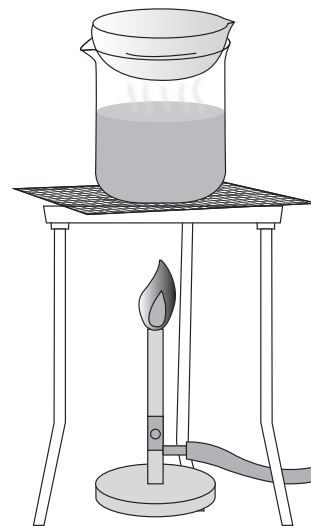

Figure 3 Crystallisation
- 8 Place the evaporating basin on top of this beaker as shown in Figure 3, light the Bunsen burner and heat to evaporate the filtrate slowly until there is only a small amount of solution left.